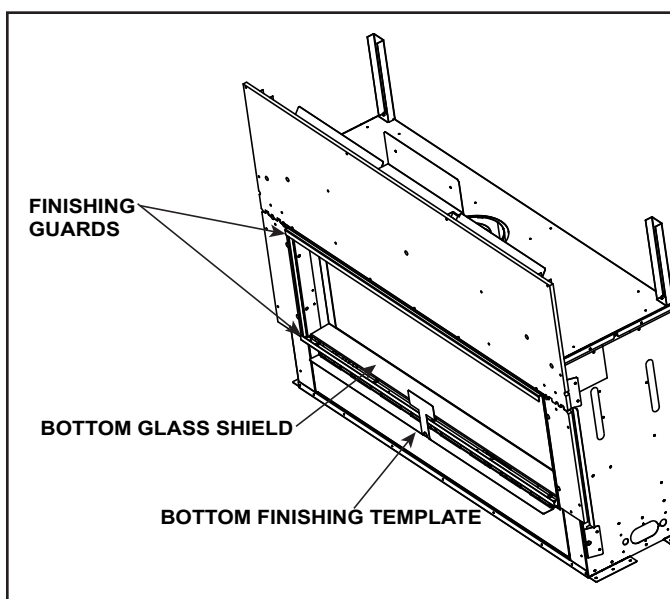

Figure 5. Remove Bottom Finishing Template and Finishing Guards
4. Remove the bottom finishing template by removing three screws. See Figure 5.